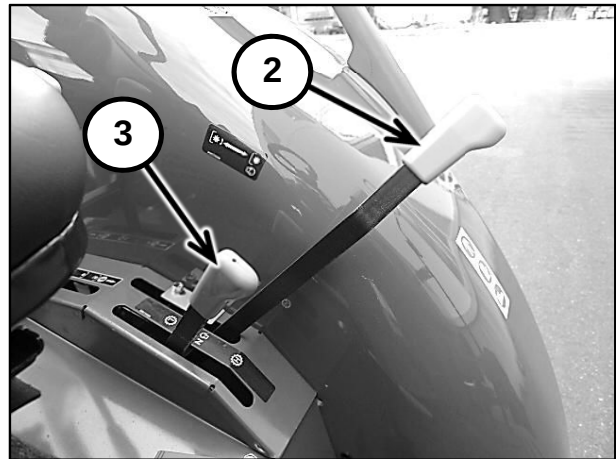

Figure 2-12
- The PTO control lever (2) in Figure 2-12, is in the “OFF” position.
- Range lever (3) in Figure 2-12, is in the “NEUTRAL” position.